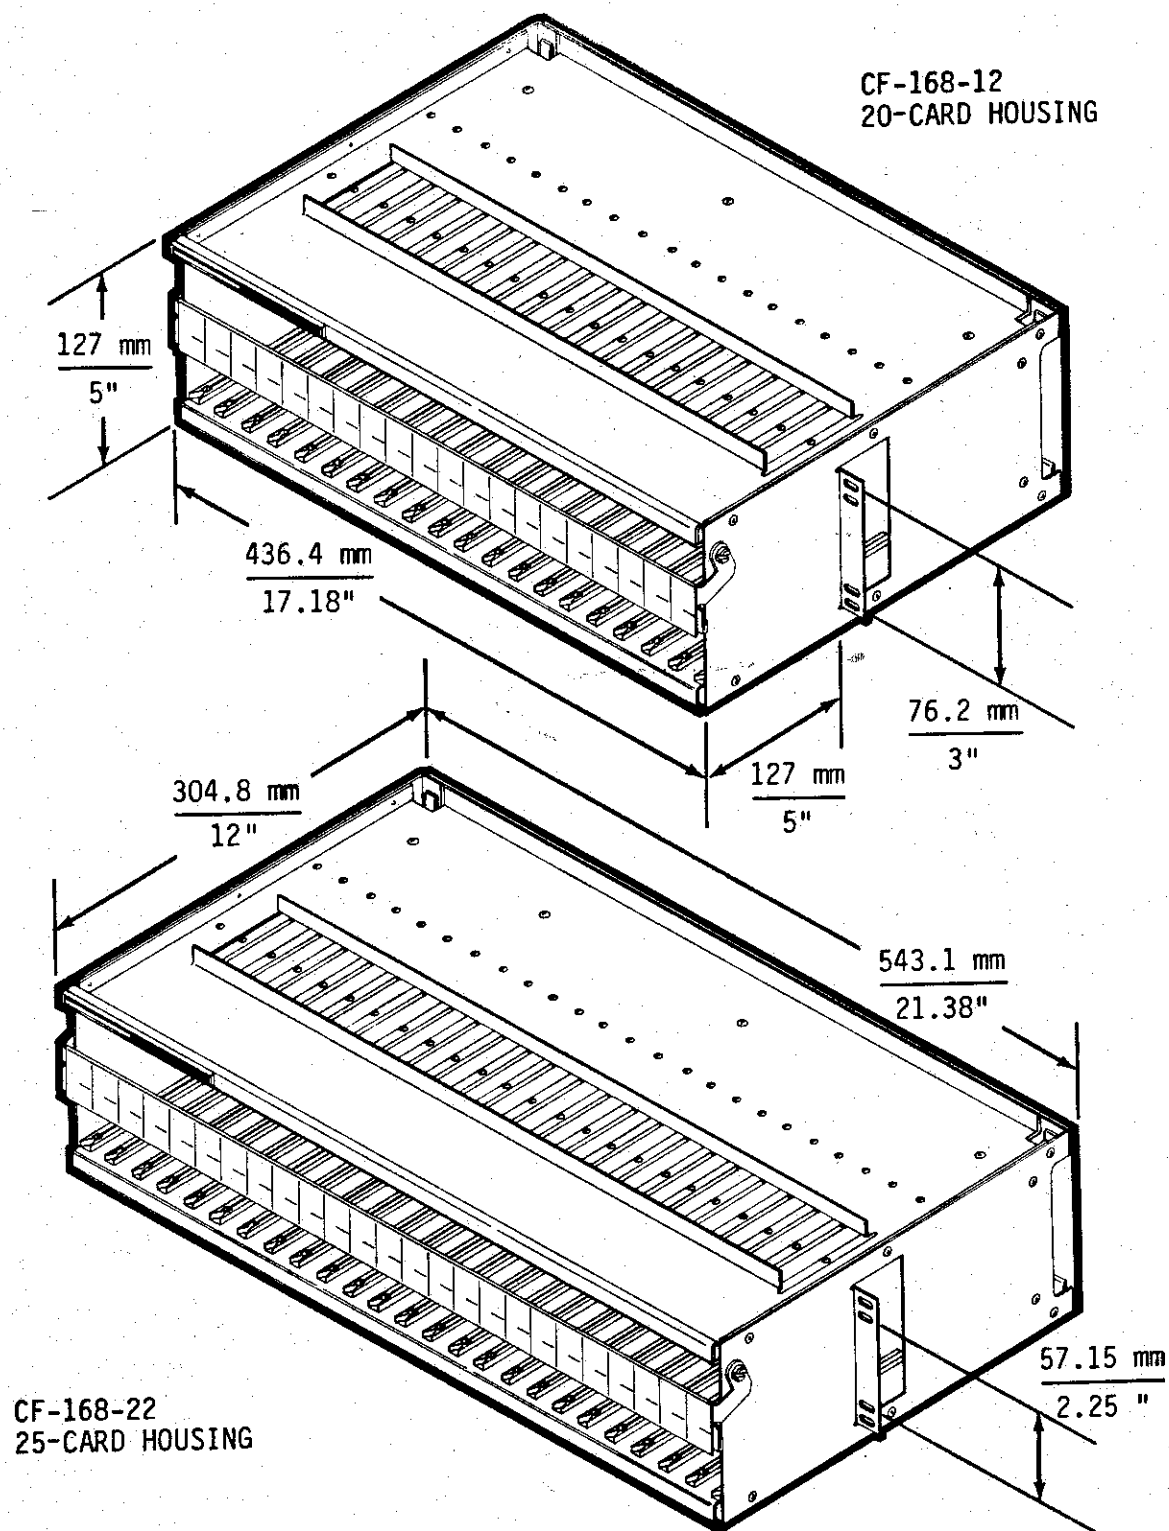

Figure 6 Relay Rack Card Files
**4.06** Card files are available for both 19 and 23-inch relay racks (see Figure 6). All relay rack card files come with a protective rear cover, have an insulative epoxy finish, and are provided with a flip-up tracing strip. All the relay rack card files have their battery connector pins and their ground connector pins strapped together in groups of five to facilitate installation.
**6.21** Each 19-inch or 23-inch card file fills five vertical inches of the relay rack (see Figure 6). Mount the relay rack card file with the nameplate right side up. Secure the card file to the front of the rack with the four screws provided. Use mounting adapter M-168-43 for mounting a 23-inch card file in a 27-inch relay rack, or for mounting a 19-inch card file in a 23-inch rack.